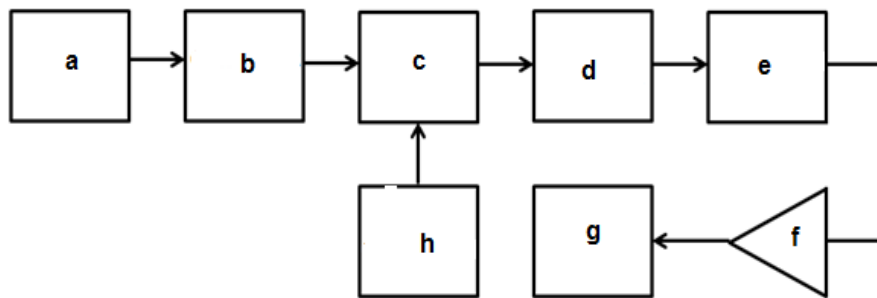

FIGURE 3
5.2 FIGURE 3 is a block diagram of a basic metal detector system.
Name the parts indicated on the block diagram in FIGURE 3 by writing only the answer next to the letter (a-h) in the ANSWER BOOK. (8 × ½)